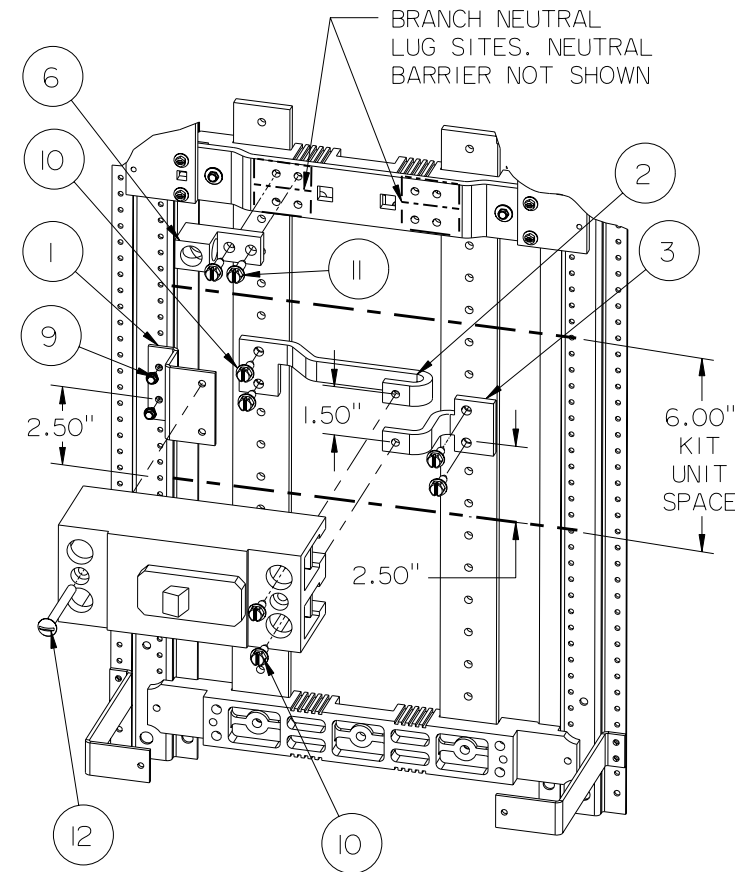

Figure 2
6. Refer to fig. 2. - Position the breaker support (item 1) on the base rail in the center of the 6" kit unit space as shown. Fasten it to the base rail with two 8-32 screws (item 9). Fasten the long outer connector (item 2), and the Type A short outer connector (item 3) to the panel bus with four 1/4-20 X 5/8" screws (item 10).
8. Position the breaker with its load-side mounting hole aligned with the upper hole in the breaker support (item 1). Bring the breaker line pads into contact with the connectors. Fasten the breaker to the support with one 1/4-20 X 2-1/2" machine screw (item 12). Do not tighten until the bus connections are made. Fasten the breaker line pads to the the connectors with two 1/4-20 X 5/8" screws (item 10).